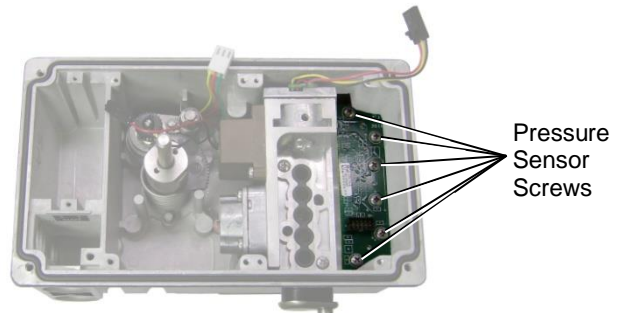

Figure 51: Pressure Sensor Board
- 9 Remove the screws from the main circuit board. See Figure 51: Main Board Screws.